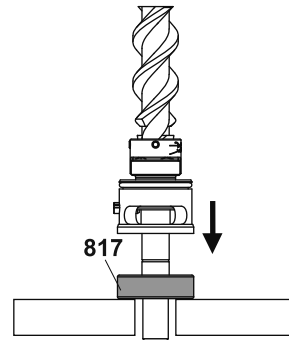

Fig. 15
6. Press the ball bearing 817 onto the main screw, see Fig. 15.